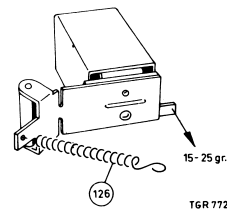

Fig. 10
The pressure force of the recording/play-back head pad should be 15 - 25 gr. If necessary replace spring, item 126, Fig. 10.